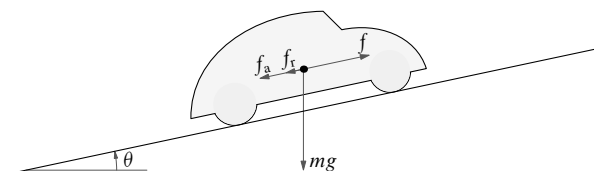

Fig. 4: System for Question 4
**Question 4** (self study). Fig. 4 depicts a vehicle of mass  $m = 1000$  [kg] driving uphill with the slope  $\theta = 12^\circ$ . The driving force  $f$  generated by the engine is the control signal, whose goal is to maintain the car velocity  $v$  at a pre-specified level. The resistance force has three major components:  $f_g = mg \sin \theta$ , the